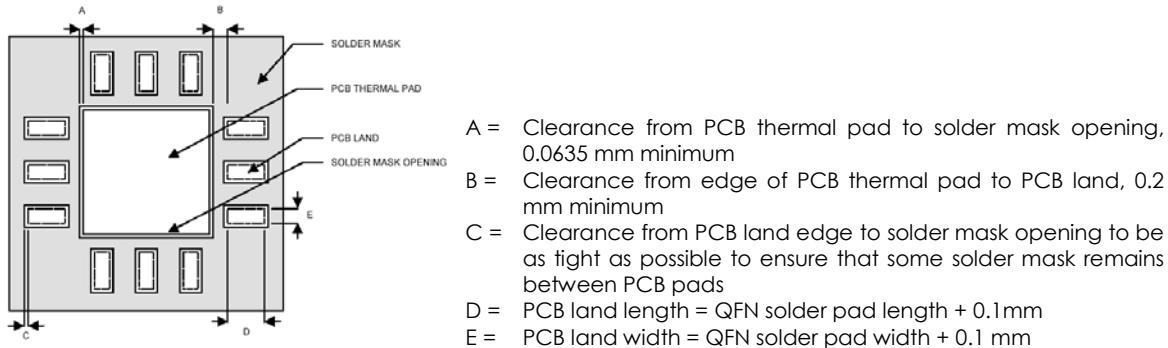

Figure 8: PCB land and solder mask recommendations
1. PCB land and solder masking recommendations are shown in Figure 8.